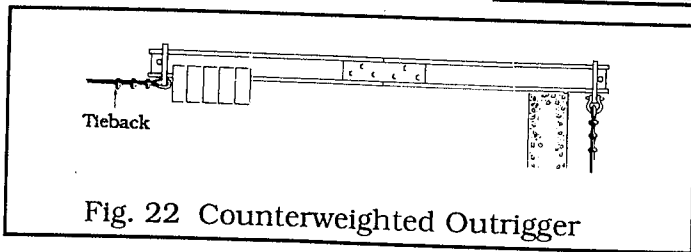

Fig. 22 Counterweighted Outrigger
**Counterweighted Outrigger**—[Fig. 22] Outriggers must be horizontal or pitched slightly to the rear. Never pitch toward the end which supports the stage. Structurally sound bearing blocks of sufficient size must be used to distribute loads imposed on roof.